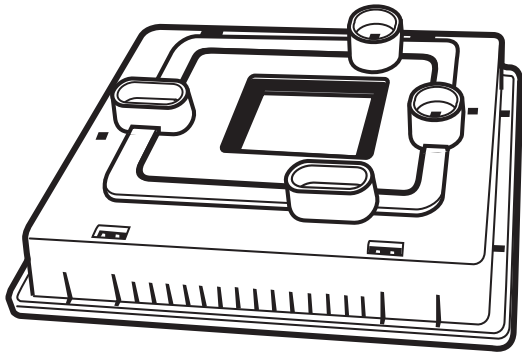

Fig. 8 — Standoff Installed on Equipment Control Module
14. Route wires through rear of equipment control module using either a clearance hole or supplied standoff. See Fig. 8. Standoff is provided as an aid when installing equipment control module on equipment or a solid wall.
15. Route wires through rear of equipment control module using either a clearance hole or supplied standoff. See Fig. 8. Standoff is provided as an aid when installing equipment control module on equipment or a solid wall.